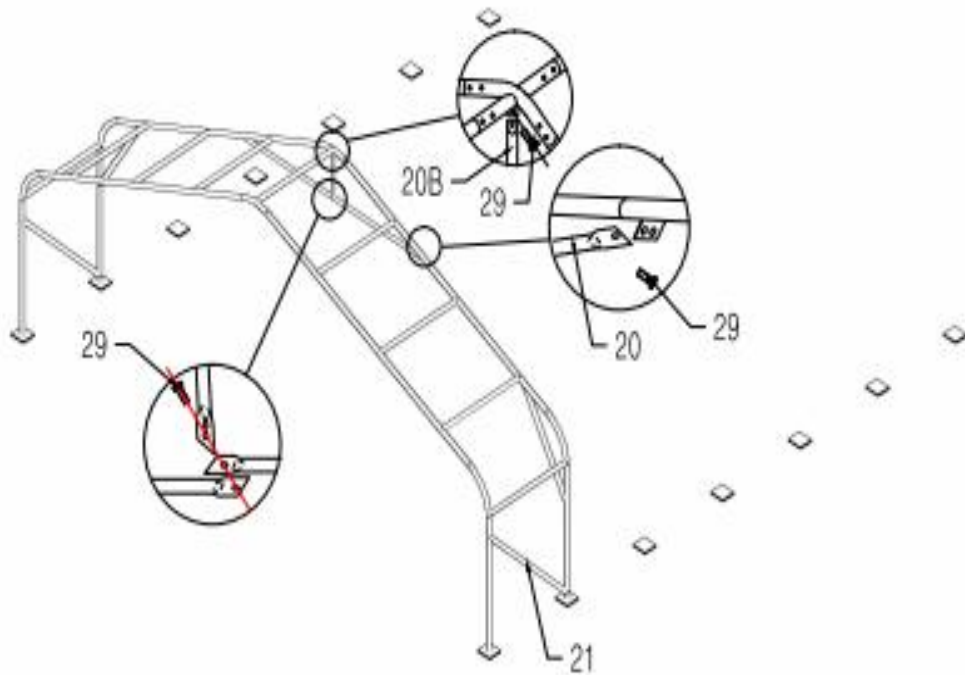

Figure 4
1. **Figure 4** shown , install the Cross tube on top (No.20) on frame by using bolt M10 x30 (No.29) and then install the Suspending tube(No.20B) on frame by using bolt M10 x30 (No.29).